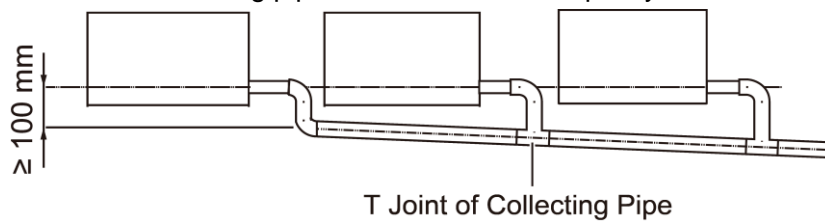

Fig 4.3.4
- (4) When connecting several drain pipes, follow the instruction as shown in Fig 4.3.4.